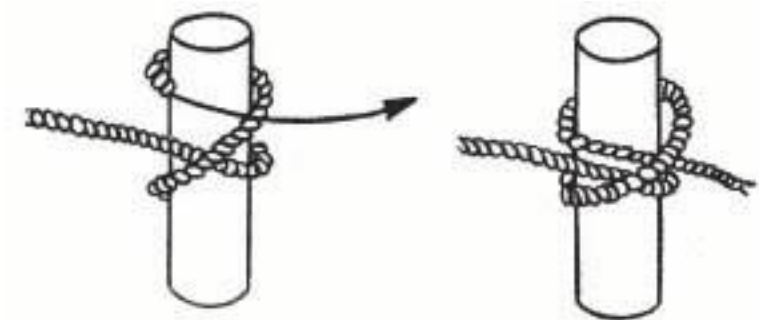

Figure 2-22. Clove Hitch
(2) Clove Hitch. Used to secure a rope to a round/cylindrical object (trees, poles, pipes, etc.). It is an equal tension knot (Figure 2-22).